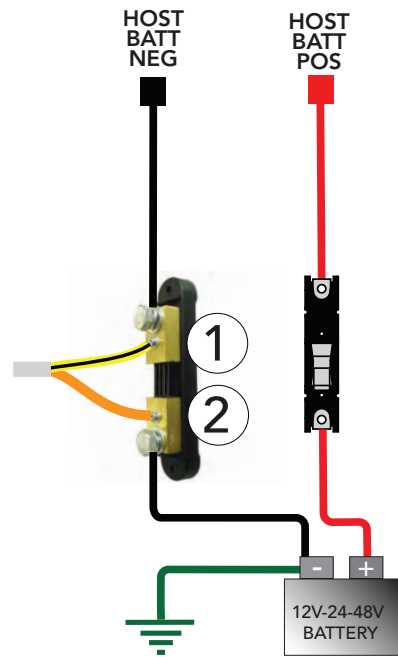
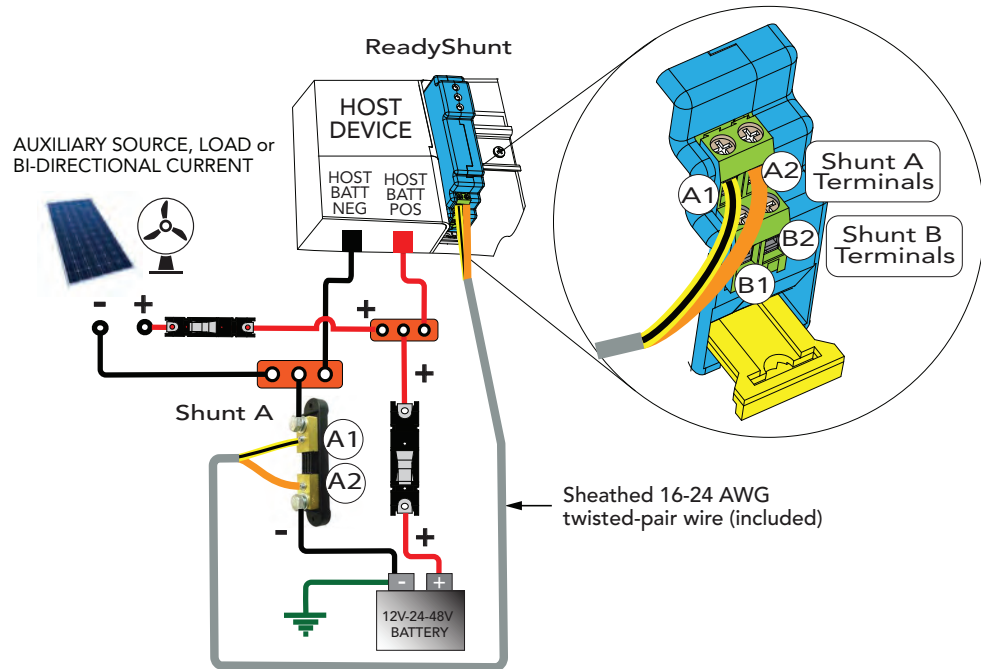

Figure 5-1. Negative Leg Shunt
Figure 5-3. Shunt Block Net Battery Current Wiring Example
Step 2. Install the shunt(s) on the circuit(s) to be measured, as seen in Figures 5-1 or 5-2, below. When installing more than one shunt in a system, wire all shunts with the same polarity.
Step 3(A) or (B). Shunt to ReadyShunt Wiring
A. Negative Leg Installation (see Figure 5-1 below). For a system with negative leg shunt(s), connect the yellow/black stripe (twisted-pair) wire to the charge/load side of the shunt, and then connect the other end to level A(1) or B(1) ReadyShunt terminal (see **exploded view** of terminals in Figure 5-3, 5-4 and 5-5).
Refer to Figures 5-3, 5-4 and 5-5 for common application schematics. Busbars are shown for clarity, actual wiring may vary.